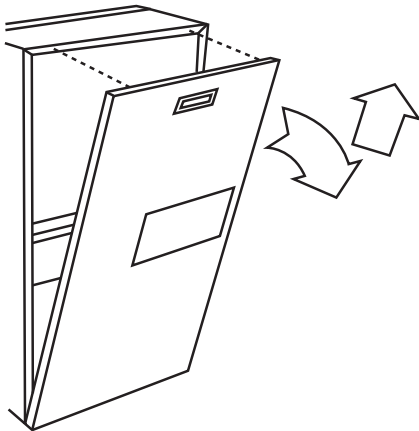

Fig. 19 - Removing Furnace Door
- (1.) Remove main furnace door. (See Fig. 19.)